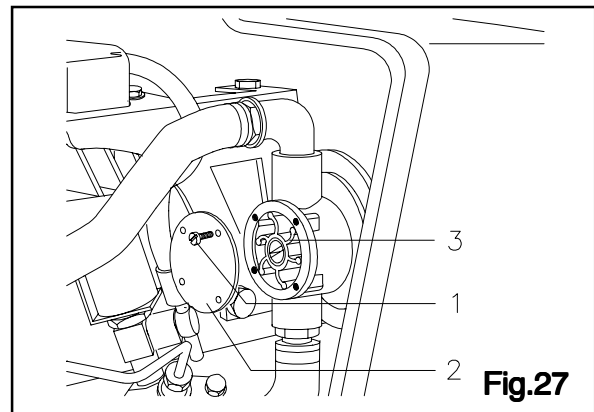

Fig.27
-Remove the screws (Fig.27 Ref.1) and pump cover (Fig.27 Ref.2).
-Remove the impeller (Fig.27 Ref.3).